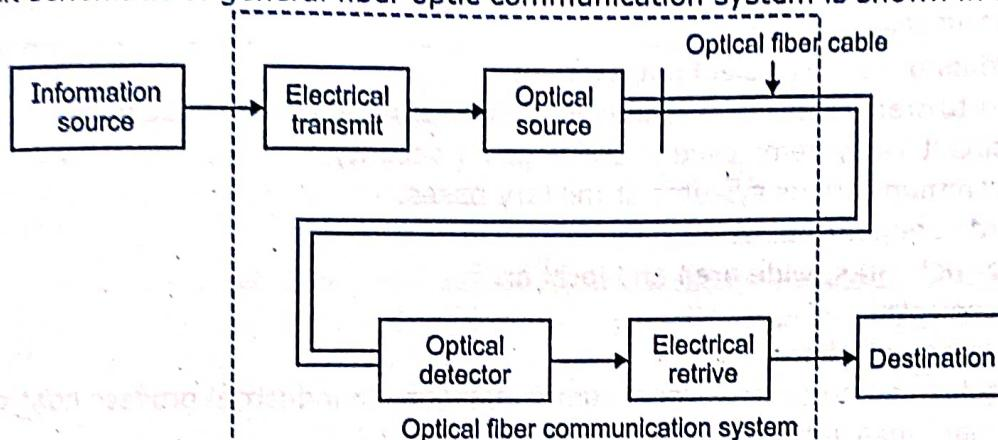

Fig. 1.2: Optical Fiber Communication System (W-15)
- A block schematic of general fiber optic communication system is shown in Fig. 1.2.